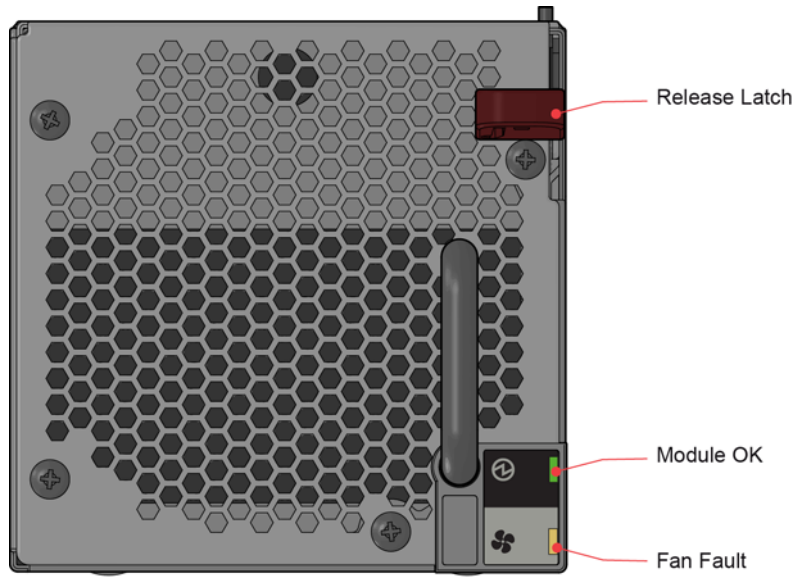

Figure 6-8 Cooling Module LEDs
- 1 Identify the cooling module to be removed. If the module has failed, the fan fault LED will be lit amber (see Figure 6-8).